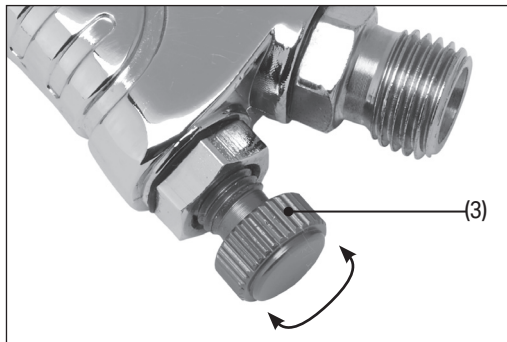

Fig. 10
The air pressure can be fine-tuned by adjusting the air control dial (3) on the spray gun. This is used to make minor adjustments to the air flow after the required air pressure has been set by the regulator (Fig. 10).